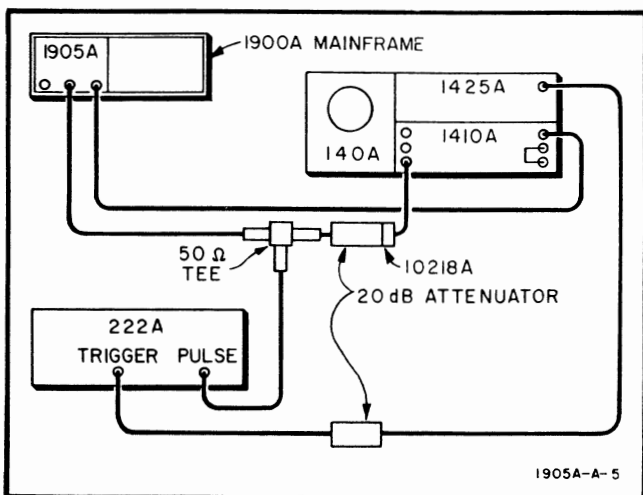

Figure 5-3. External Gating Test Setup
a. Connect the equipment and accessories as shown in Figure 5-3.